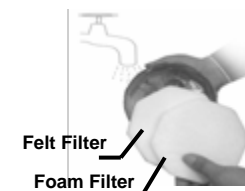

Fig. 23
3. Rinse the filters in lukewarm water until the water runs clear. Squeeze and let the filters air dry for 24 hours before re-installing into the filter frame. **Do not** use a washing machine to clean the filters. **Do not** use a hair dryer to dry them. **Air dry only.** You can also rinse the filter frame if you wish. **Never** operate the vacuum without **ALL** the filters in place. (Fig. 23)